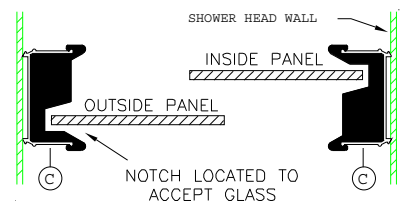

figure 6
10. Attach Panel Bumpers (F) to Wall Jamb using a 834Q Installation Screw (G). Please note that notches on bumpers are positioned so as to accept glass insertion, see figure 6.